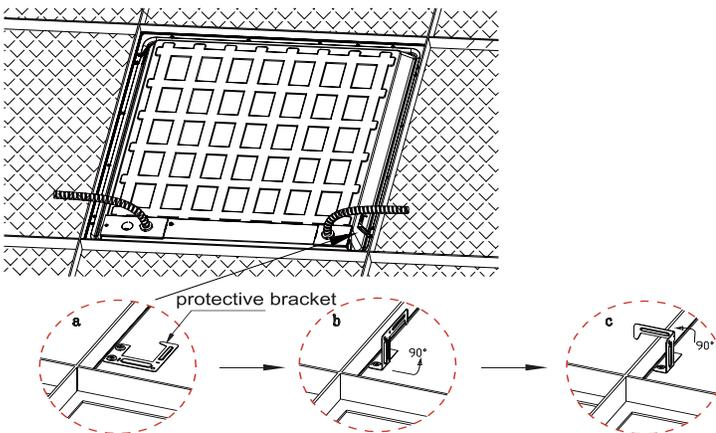

Figure 3
5. Grid clips are provided for additional retention to ceiling system. Orient the tabs on back of the fixture over the grid by bending tabs up 90 degrees perpendicular to back of the fixture. Next bend tabs 90 degrees towards T-GRID frame (Fig.3)
3. Place the panel into the flange kit and connect the input lines. Installation complete. **(Figure 3)**